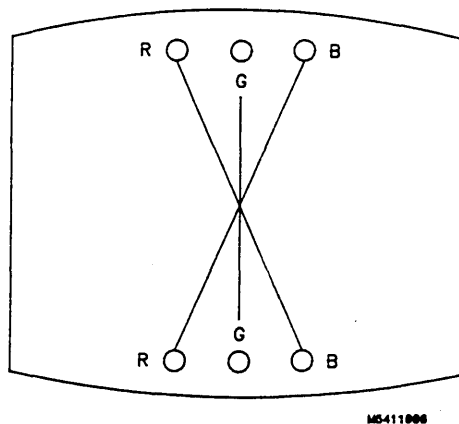

Figure 4-20. Y BOW CROSS Adjustment.
3. Adjust Y BOW CROSS (RV804), located on bottom of PC board, to eliminate red, green, and blue orthogonal mis-alignment at top and bottom of center vertical line (see figure 4-20).